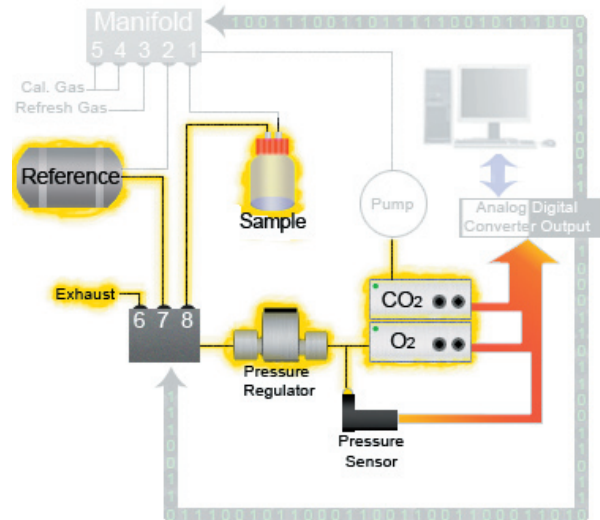

Figure 4
**Step 1:** The first step is to measure the Barometric Pressure in the room. We open the Reference Chamber, Sample Chamber, and Sensors to the outside environment. The pressure inside the system equalizes with the barometric pressure in the room (Figure 4). The pressure inside the system is recorded. The Sample Chamber and Reference Chamber are opened to the outside since they comprise the bulk of the volume in the closed system.